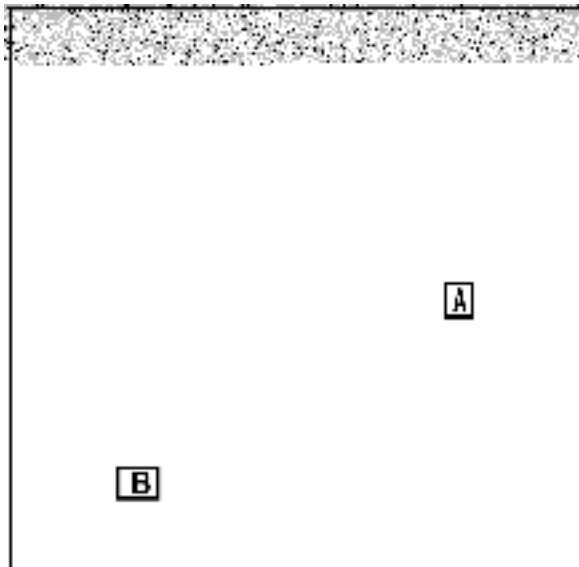

Fig. 107
Lay the throttle plate (A) on the shaft with the stamped numbers ([B] Fig. 107) to the left. Install two screws with lock washers.